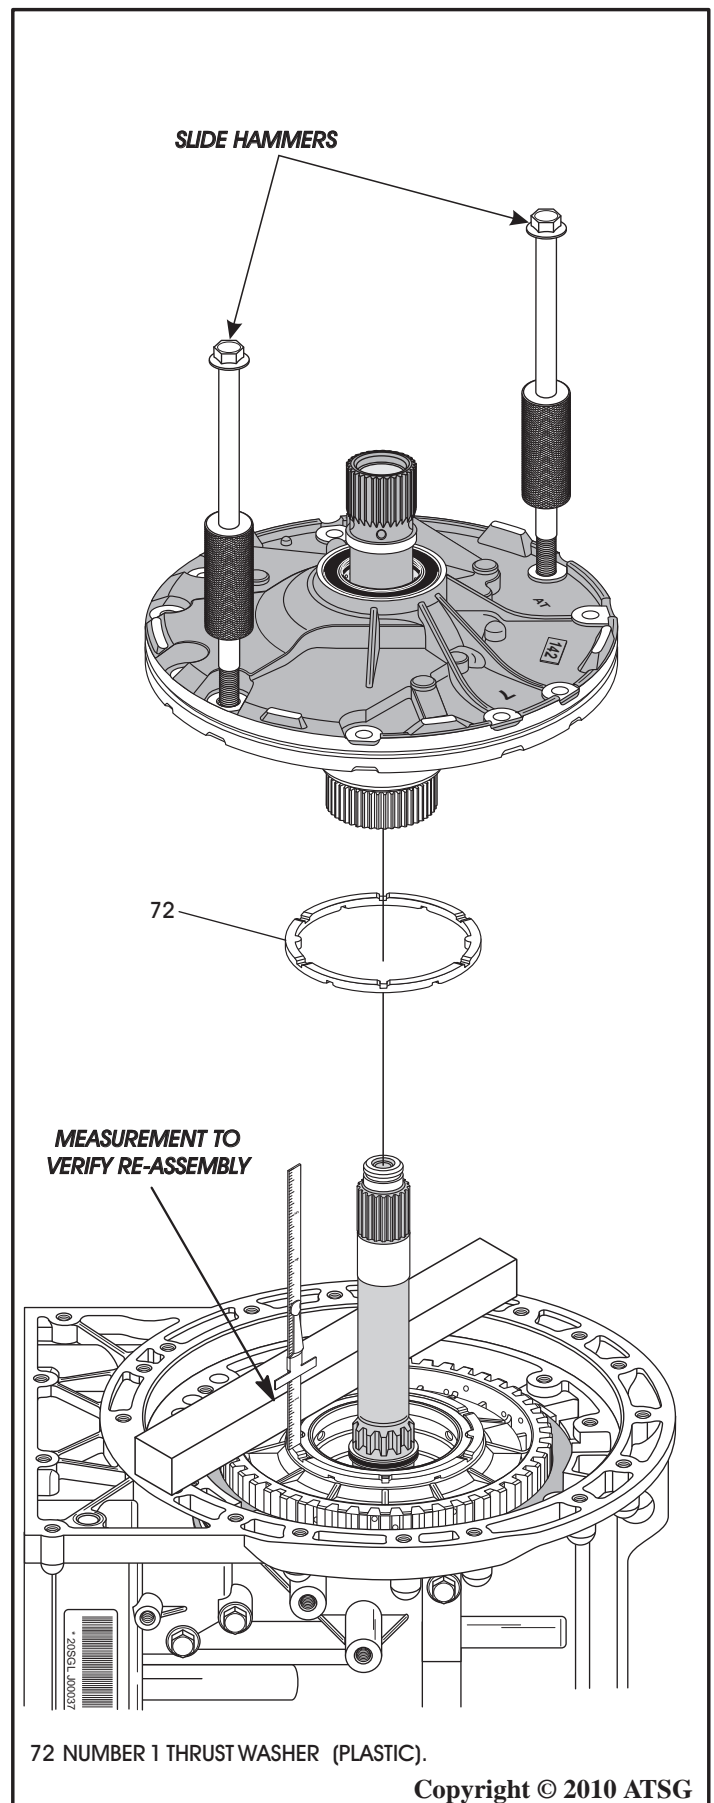

Figure 54
30. Install slide hammers into oil pump in positions shown in Figure 54.
31. Using the slide hammers to loosen the oil pump and remove oil pump as shown in Figure 54.
33. Remove the number 1 plastic thrust washer, as shown in Figure 54.
**Important:** *If the washer did come off with the oil pump, put it back on the K3 clutch housing and measure distance from straight edge to thrust washer, as shown in Figure 54. Record this measurement to verify proper re-assembly.*